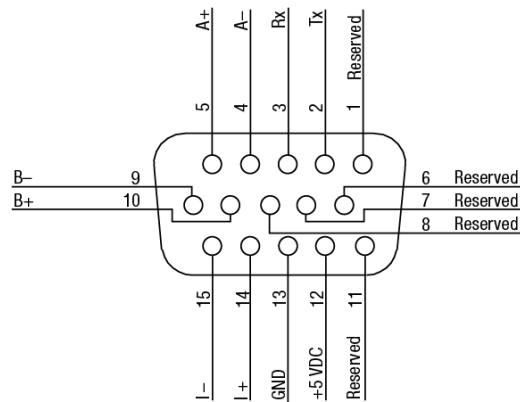

Figure 10 - Pin descriptions for the encoder's 15-pin high density 'D' connector
A high-density (HD) 15-pin male connector is provided for making the necessary connections from the 8743-CL controller to the encoder. The pin descriptors for this connector are shown in Figure 10.